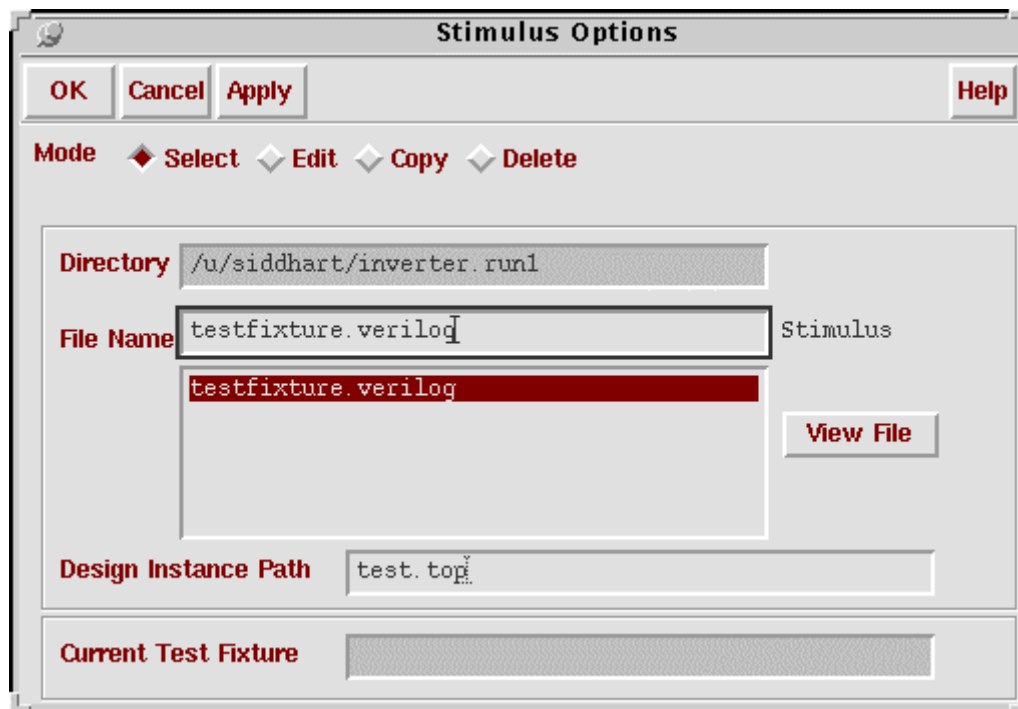

Fig 8: Simulation Options
- c. A “Stimulus Options” form opens as shown in Fig 8. Select **testfixture.verilog** as the **File Name** and then click **OK**.